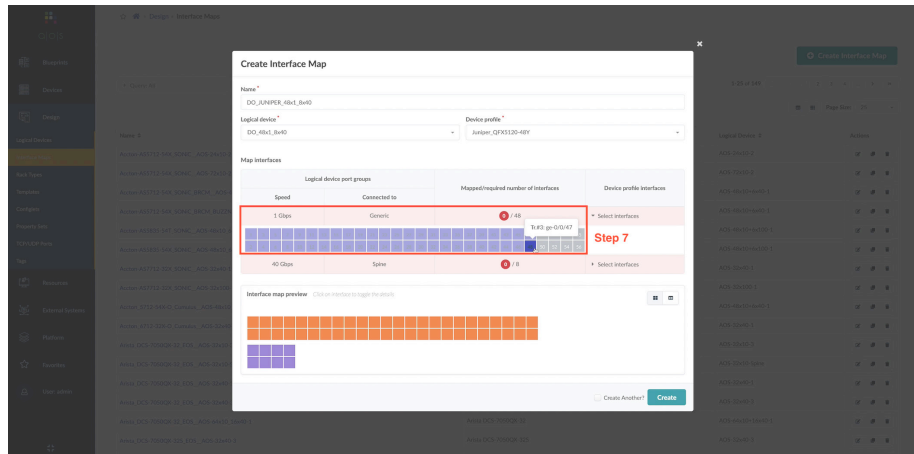

Figure 3.8 *Creating Interface Mappings in Apstra*
Step 7: Click on a port and while holding the mouse button down slide/drag the cursor until the number of ports required are highlighted and then release the mouse button, this will be a port group. In this example the first 48 ports have been selected. See Figure 3.8.